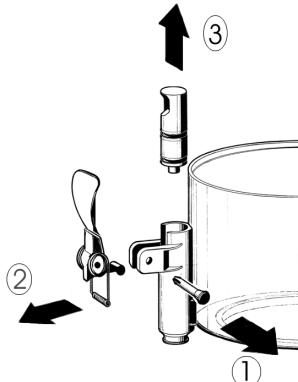

figure 1
- 3 Dismantle the faucet following the sequence shown (see fig. 1).
- 3** Reassemble the faucet assembly on the container in the opposite way to which it was dismantled (see fig. 1).